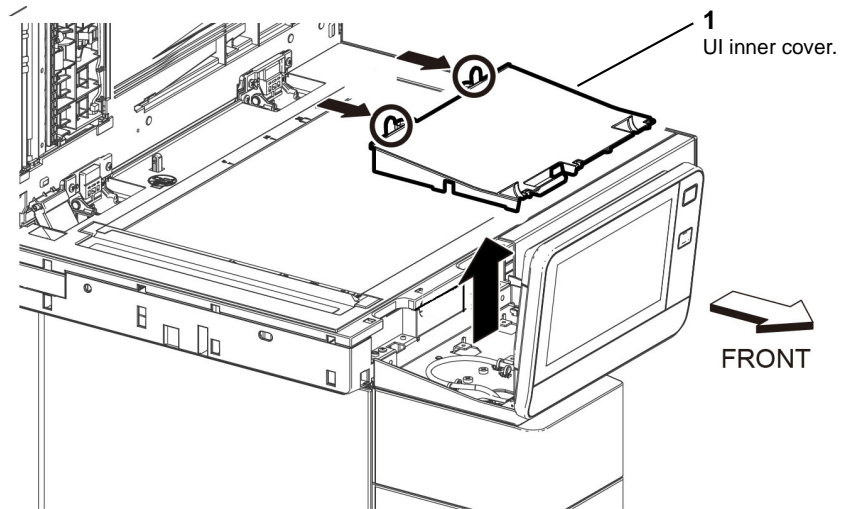

Figure 1 UI inner cover
2. Release two hooks, then remove the UI inner cover, Figure 1.